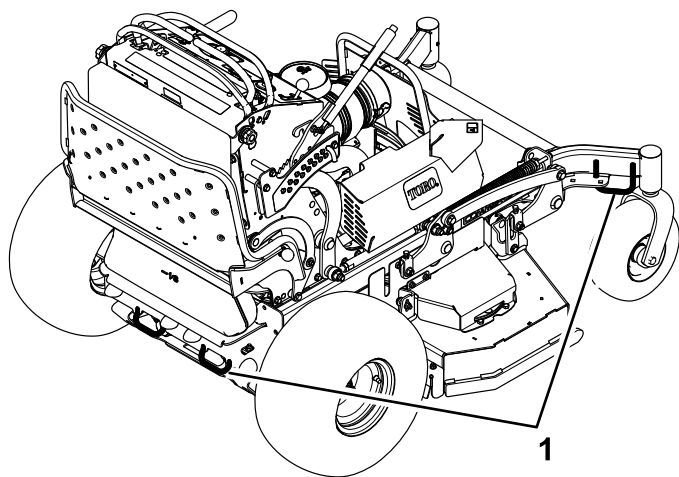

Figure 27
7. Tie down the machine near the front caster wheels and the rear bumper with straps, chains, cable, or ropes (Figure 27). Refer to local regulations for tie-down requirements.